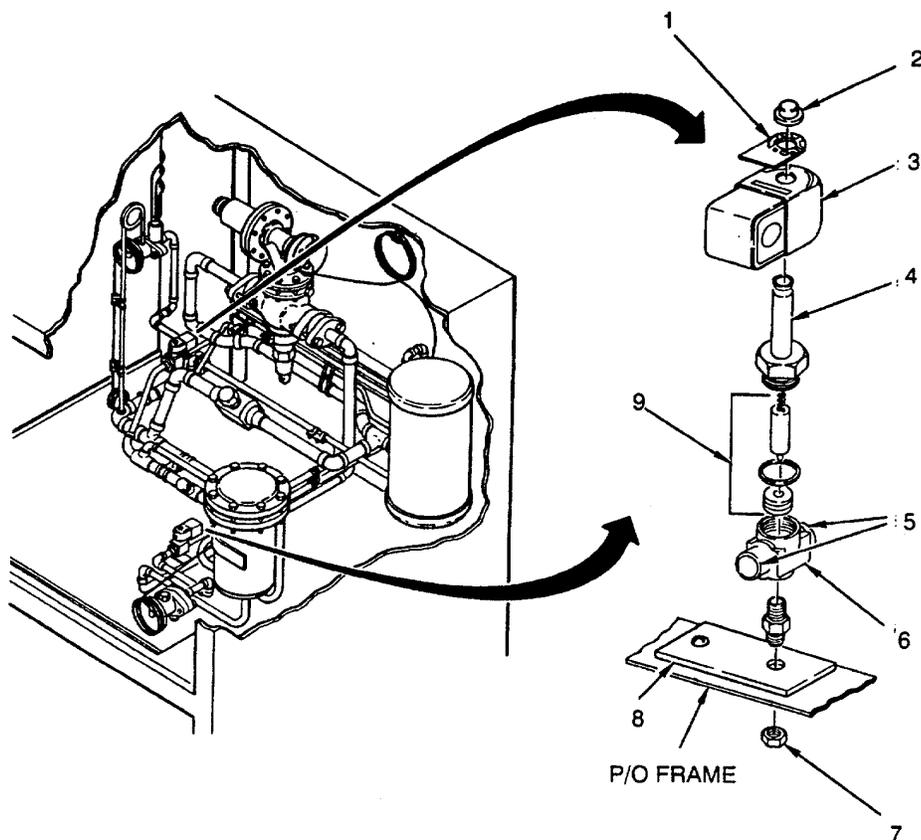

Figure 5-24. Solenoid Valve (L1 And L2)
1. Check for leaks or frayed wires (see Figure 5-24).